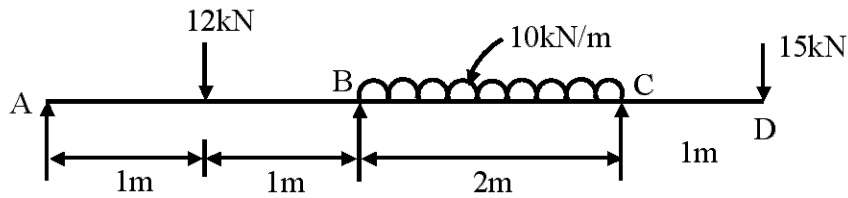

Fig. 6
9. Find the support moments for the continuous beam shown in fig. 6 by moment distribution method. 14